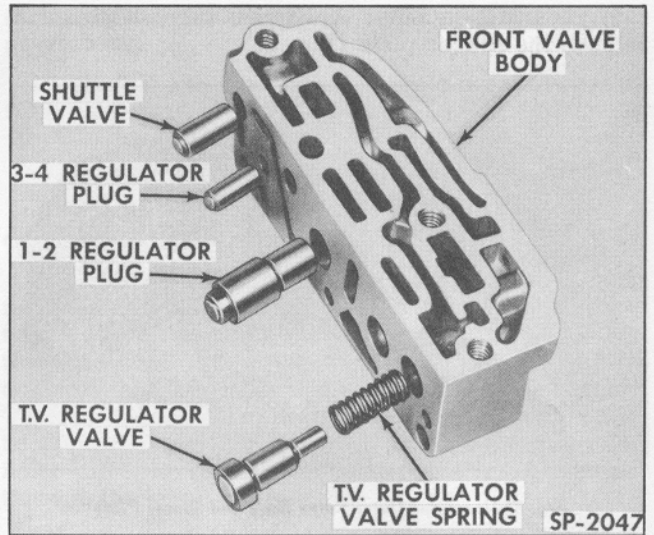

Fig. 37—Disassembled View—Front Valve Body
8. Remove the 3-4 regulator plug, 1-2 regulator plug, T.V. regulator valve, the T.V. regulator valve spring and the shuttle valve from the front valve body (Fig. 37).